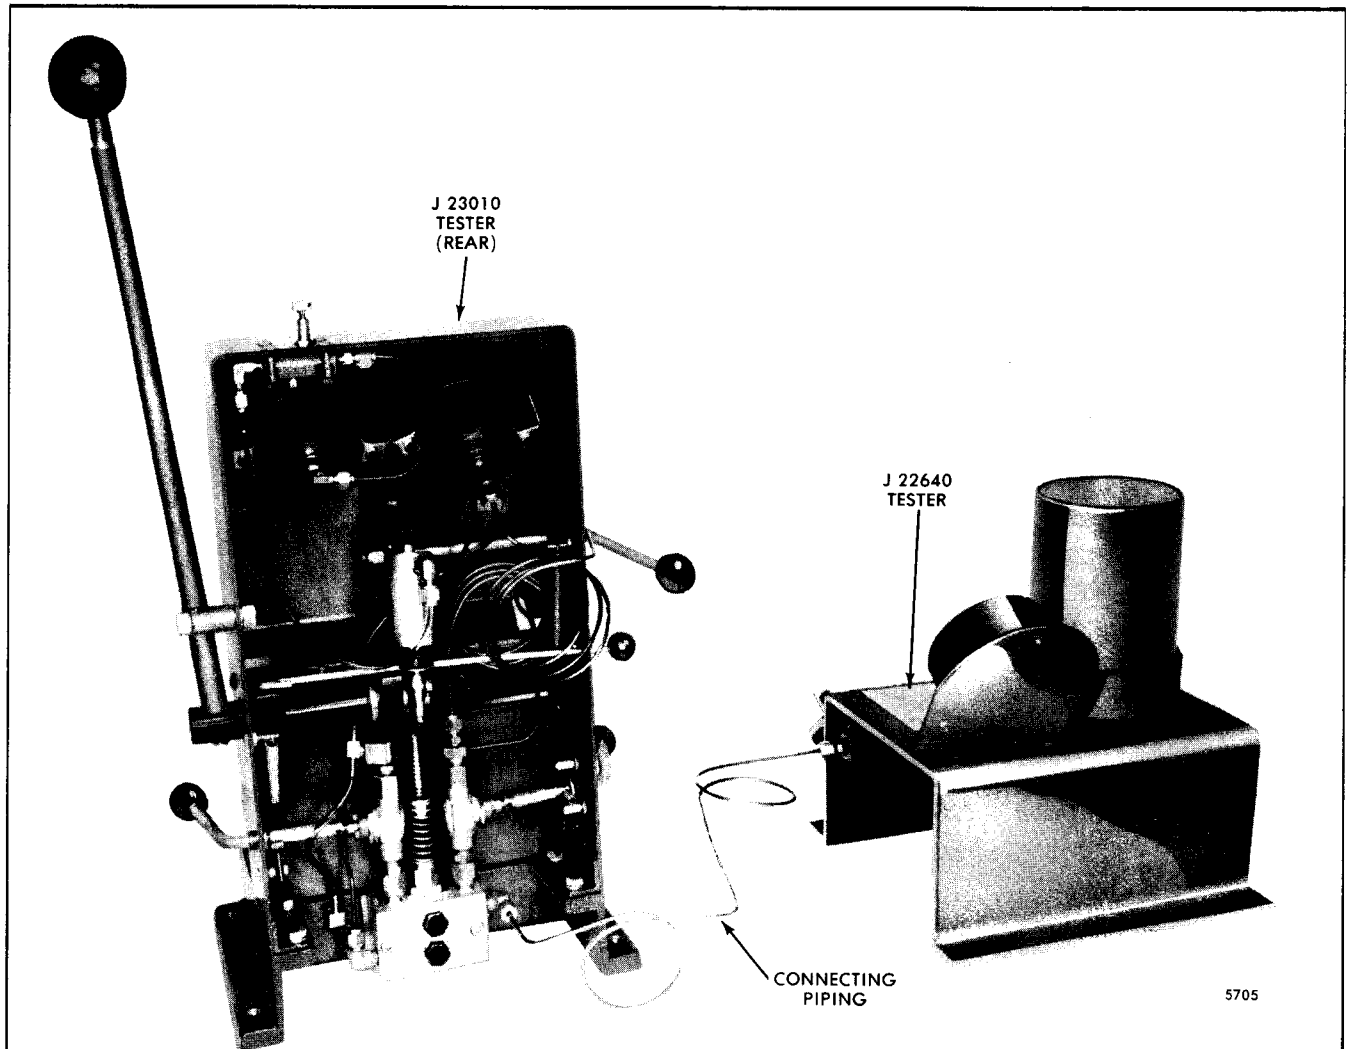

Fig. 17 - Injector Needle Valve Tester J 23010 with Auxiliary Tester J 22640
- Connect the pipe from auxiliary tester J 22640 to the rear of the J 23010 tester at the connection located near the bottom of the tester (Fig.17).